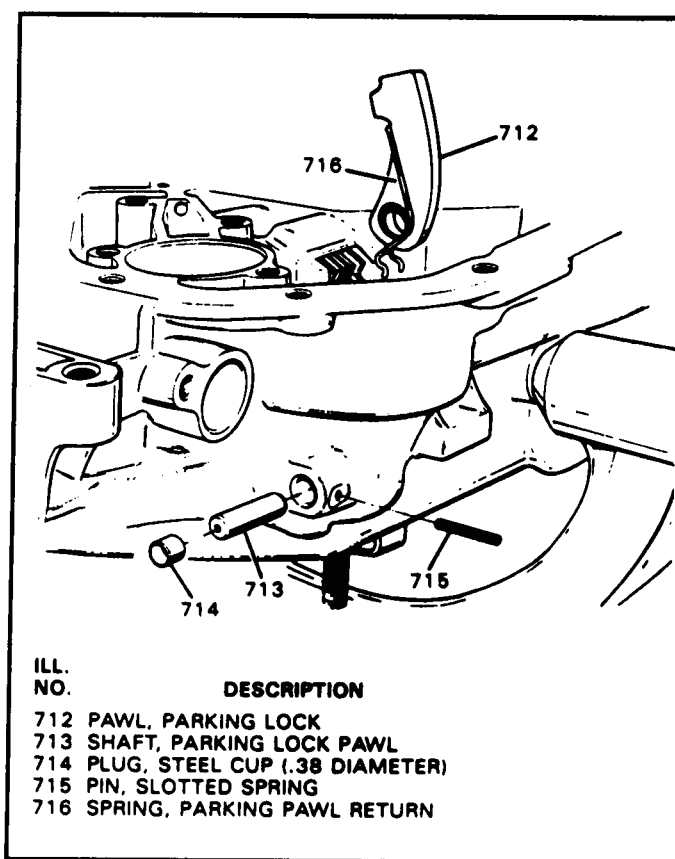

Figure 65
21. Remove the parking pawl and spring from the case, **only if necessary**, using Figure 65.